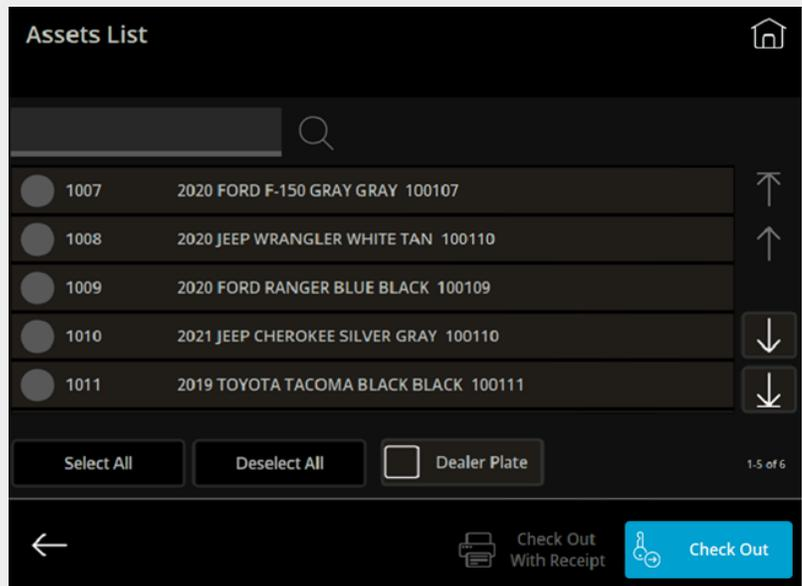

Fig. 49 – Assets List screen
1. Press **List** on the Check Out screen to display a list of all keys available for check-out, as shown in Fig. 49.